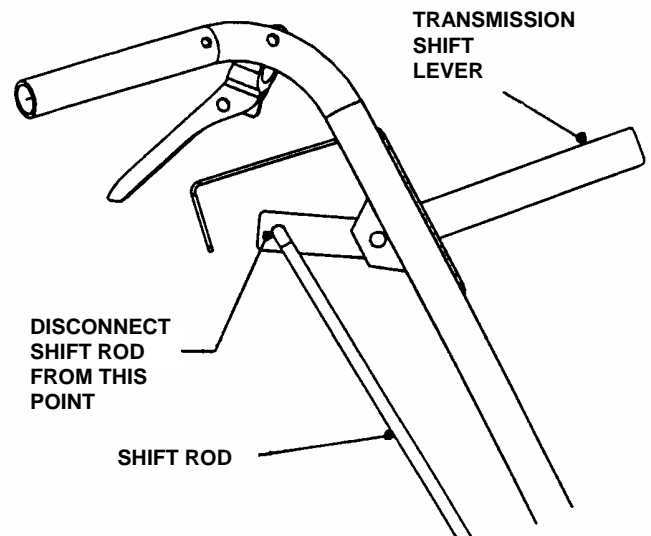

FIGURE 5.5
1. Disconnect the hair pin from shift rod that connects to the Transmission Shift lever. See Figure 5.5.